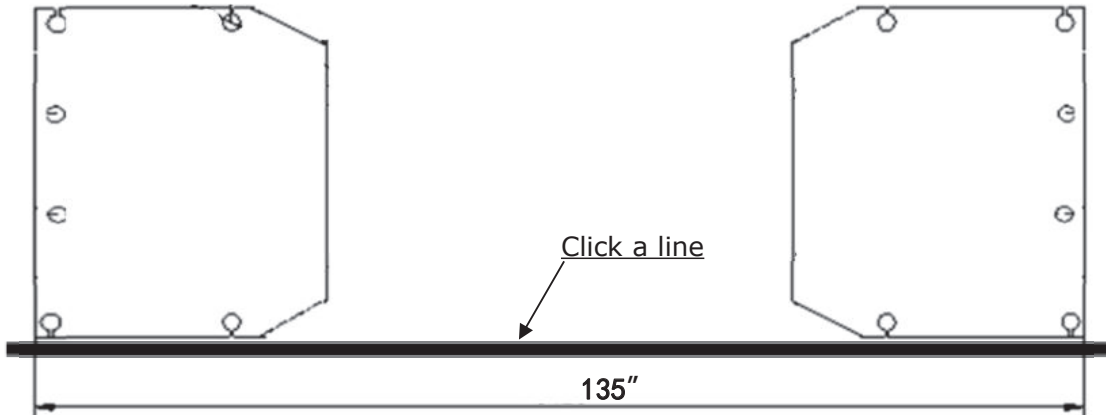

Fig. 8
B. Use a carpenter's **ink marker** line to establish installation layout of base-plate (**See Fig.8**).